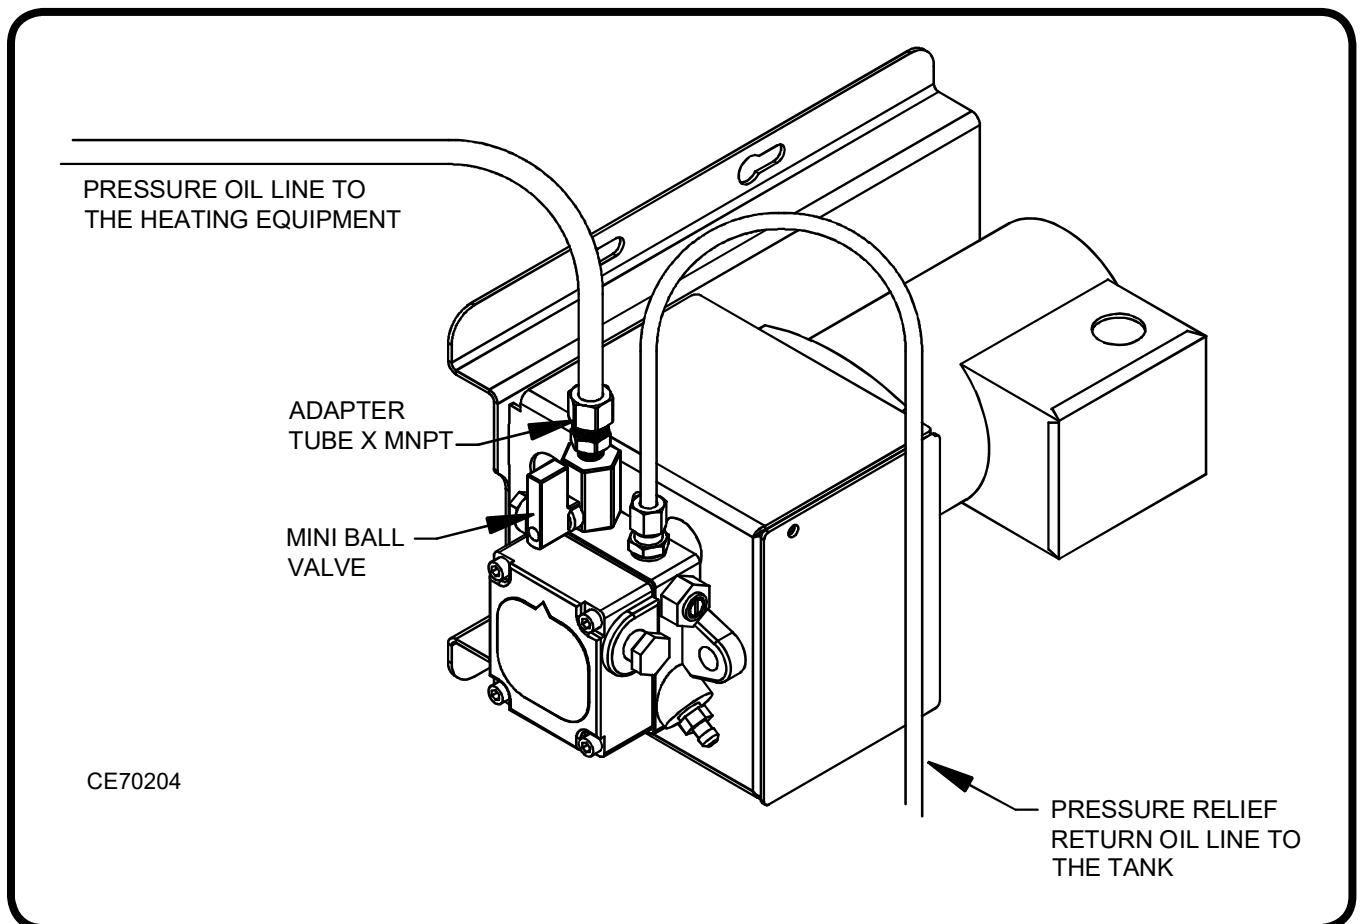
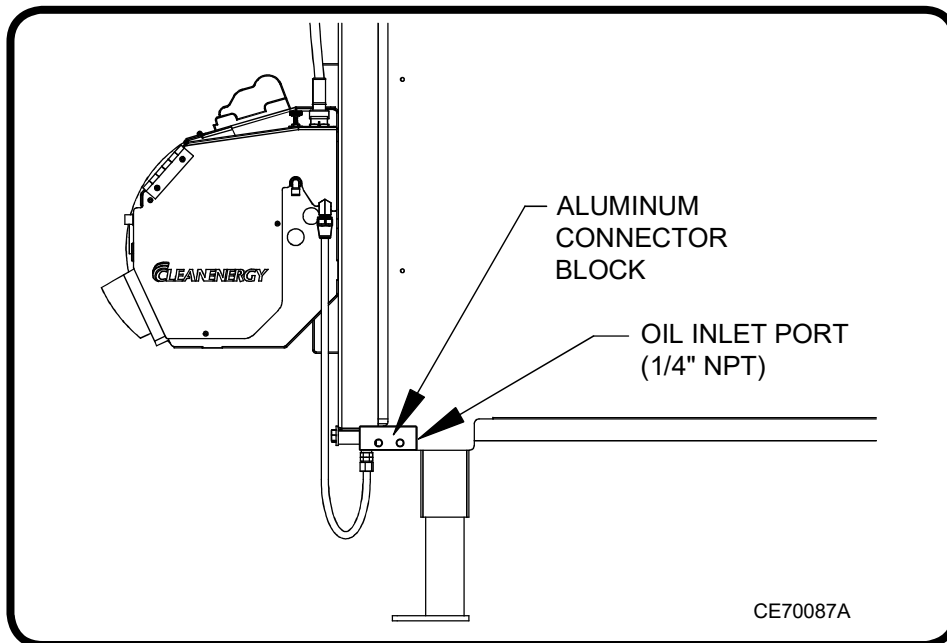

Figure 17: Metering Pump Oil Outlet Options
Figure 18: Connecting the Pressure Oil Line to the Connector Block
- (1) Refer to Figure 17.
- (2) Determine the length of copper tubing needed for the pressure line (from pump to boiler) and use the appropriate sized tubing. If the pressure line is less than 100 feet, 3/8" copper tubing can be used. If the pressure line is greater than 100 feet, use 1/2" copper tubing. An adapter fitting may be needed when using 1/2" copper to make the connection between the tubing fitting and mini ball valve (50039 - 1/8 MNPT x 1/4 FNPT).
- (3) Refer to Figure 18.
- (5) Connect the pressure oil line to the aluminum connector block on the side of the boiler.